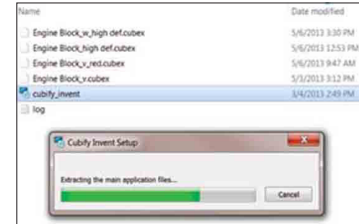

Fig. 47
1. Plug the USB provided with your CubeX into your computer and click on “Cubify_Invent.exe” to download the software to your computer. (Fig. 47)